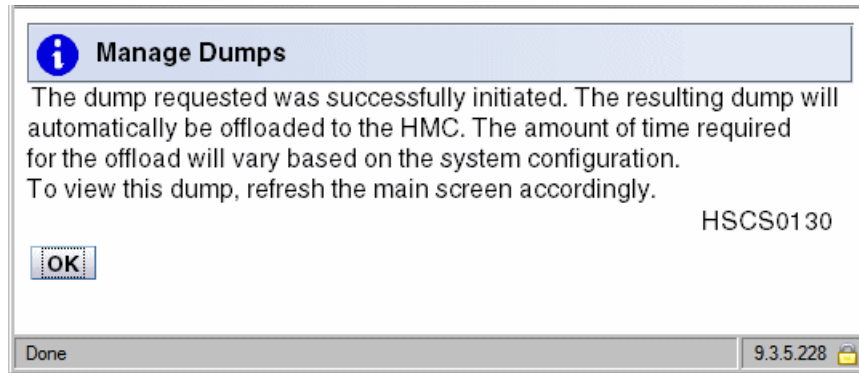

Figure 12-19 Service Management, system dump complete
4. If there are no errors associated with the system dump, you get a status message as shown in Figure 12-19. Click **OK**.